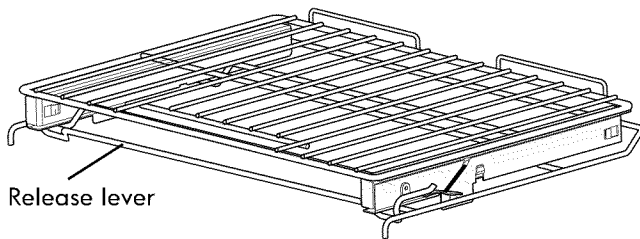

Figure 17: Extensible glide rack with release lever in locked position
1. Lift up on the release lever located across the lower front of the rack, as shown in Figure 17.